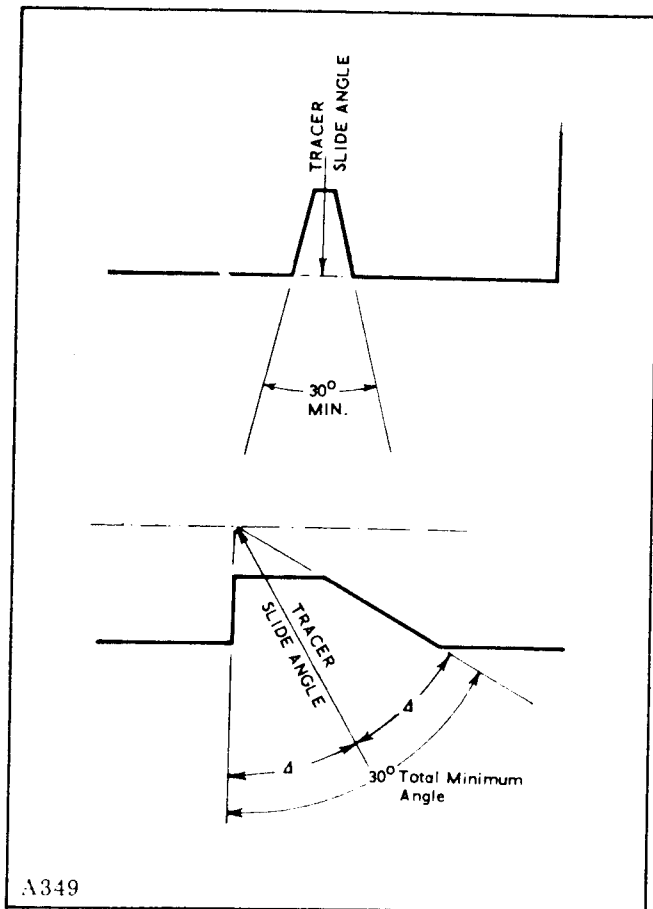

Figure 3-7. Determining Smallest Included Angle on the Template
a. The correct operating angle is dependent upon the smallest included angle on the template. The configuration of the template must be such that the smallest included angle is not less than 30 degrees as shown in figure 3-7. The tracer slide must be positioned at an angle which bisects the smallest angle in the template as shown in figure 3-7.